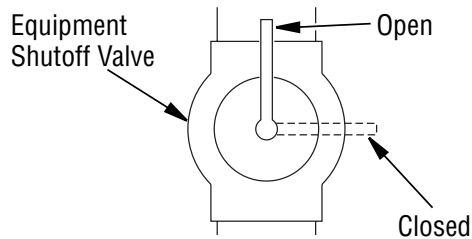

Figure 25 - Equipment Shutoff Valve
1. Close equipment shutoff valve (see *Figure 25*).
1. Open equipment shutoff valve (see *Figure 25, Page 20*).